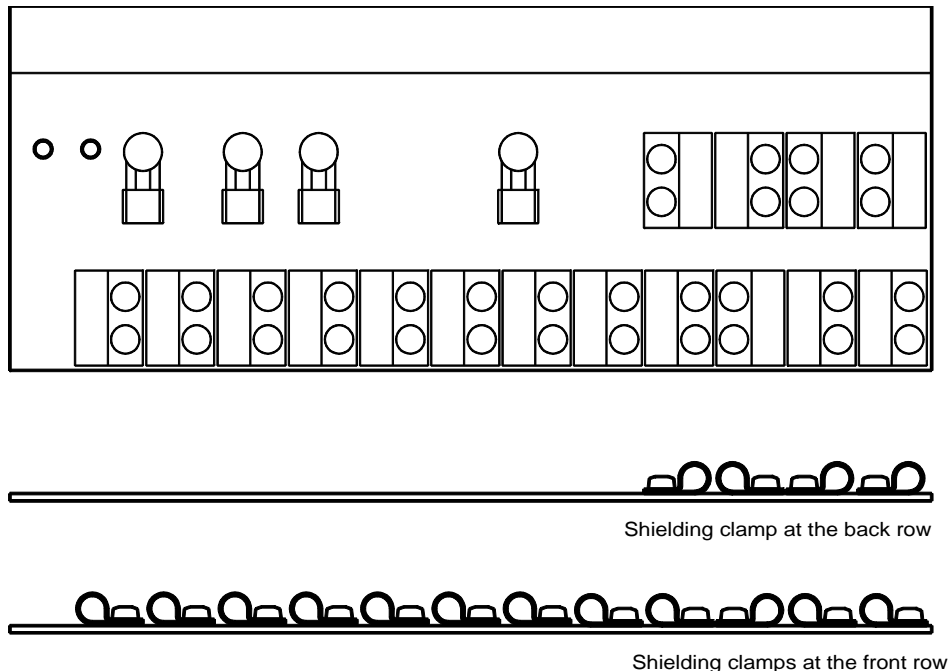

Fig. 24-1 Ground Strip with Shielding Clamps
The orientation of the shielding clamps should be as shown in Fig. 24-1.
4. If 66 blocks are not permissible in the switch room due to preference or standardization practices the AMP connector may be cut off and the cable may be punched down in standard telecom color code. See Table Fig. 24-1 for the pinout of the AWS1019 DLU/MDF Cable.